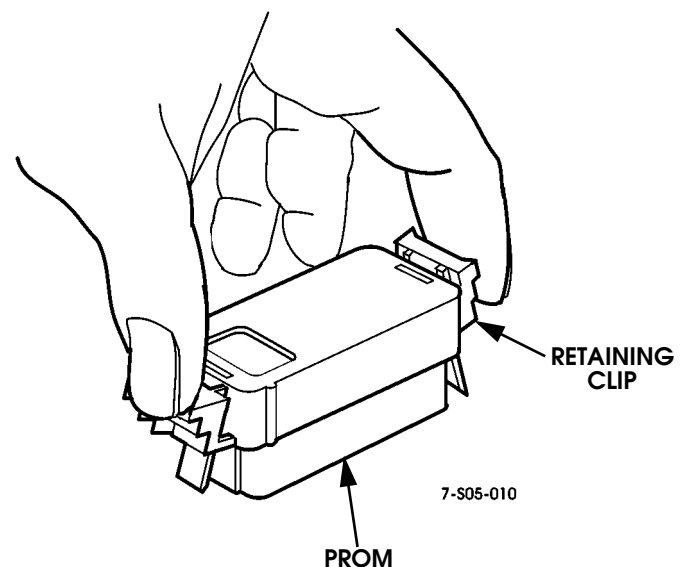

Figure 5-62: PROM Socket Retaining Clip Locations
3. Using two fingers, push both retaining clips away from PROM. While grasping PROM at both ends, lift it straight up out of socket (Figure 5-62).